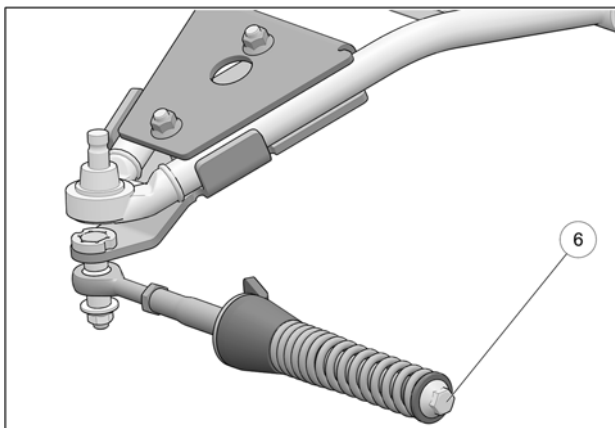

Fig. 15
- Verify that spring assembly bolt (6) is tightened to the recommended torque specification: 75 N•m [55 lb•ft]. Refer to Fig. 15